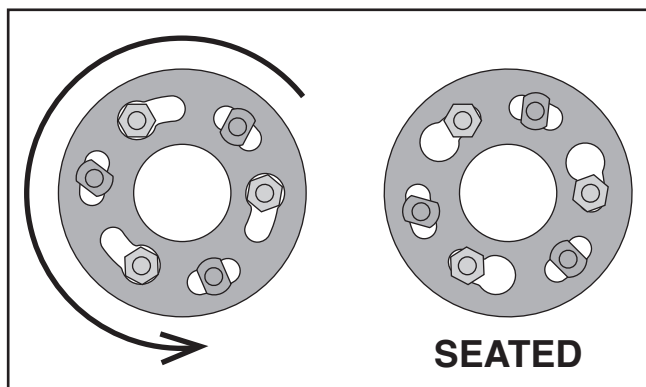

Figure 37. Stud hex nuts seated flange keyhole slots (shown from rear).
6. Turn locking flange clockwise to seat stud hex nuts in flange keyhole slots (see **Figure 37**).